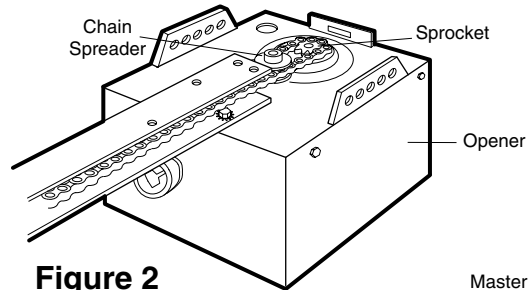

Figure 2
- Proceed back around the rail to the opener, Figure 2. Guide the chain around the chain spreader and sprocket. Be sure sprocket teeth engage the chain.